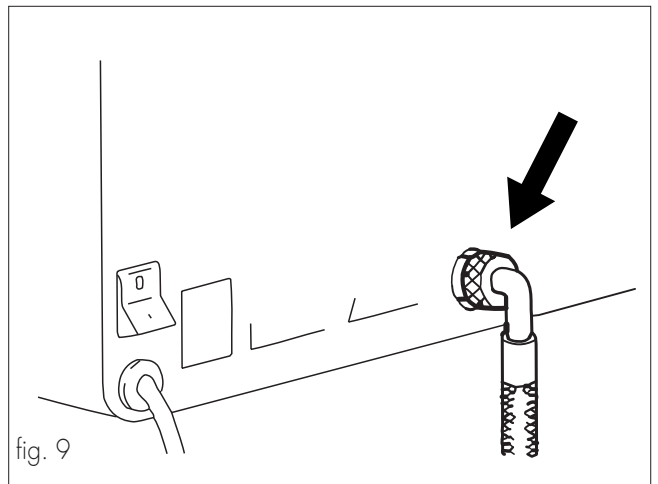

fig. 9
- Connect the vending machine to a drinking water distribution conduit having a pressure between 1,5 and 8 bar. To do this use a loading tube with adequate characteristics and connect it to the G3/4" coupling located on the vending machine back panel (fig. 9).